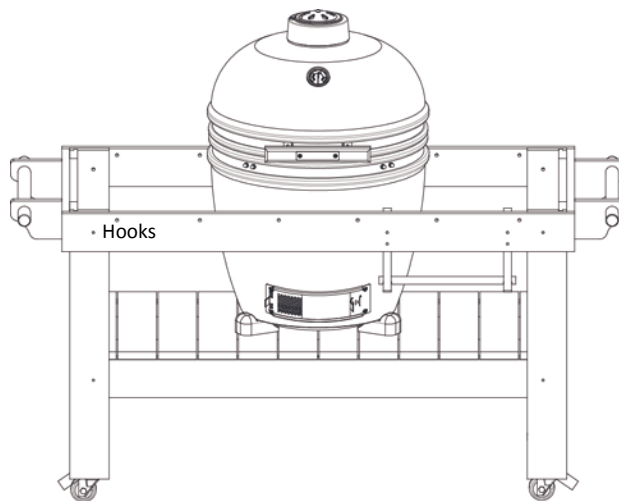

Figure 11
STEP 4 Place assembled table on a secure level surface and lock the front casters before inserting the grill. Gently place the grill into the table and adjust the feet with the Heat Shield pan to fit with the base of the grill. Adjust the position so the front of the grill is centered between legs with the two locking casters. (See Figure 11)